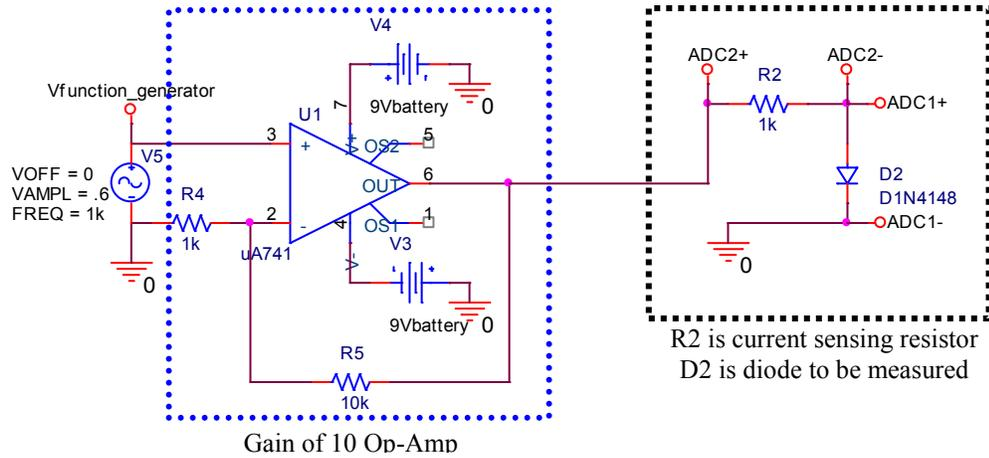

Figure A-7.
- Wire the circuit shown in Figure A-7 on your protoboard. The IOBoard can't create a large enough output voltage by itself, so you need to build a gain of 10 op-amp circuit. Use either the uA741 or the LF351 op-amp for this circuit. Don't use the MAX473, it doesn't run at 9V. Use two 9V batteries to power the op-amp.